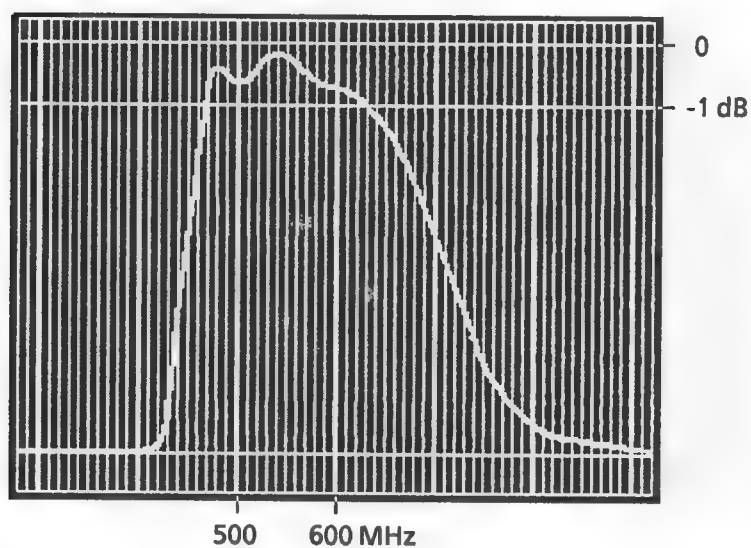

Fig. 2
-0.2 dB	Adjust the passband curve 470 - 630 MHz as in Fig. 2.